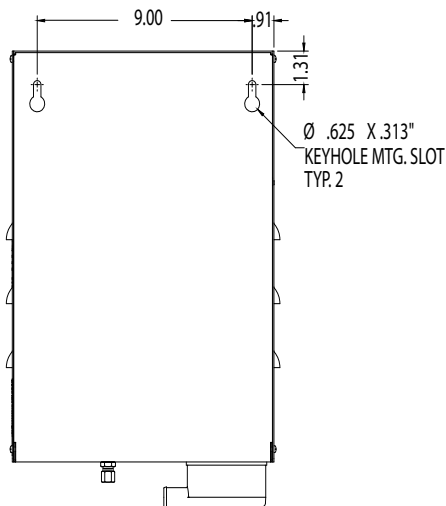

Figure 3 (Back View)
3. Two 5/16" lag bolts are supplied with the CFS20/22 unit. Install the lag bolts according to the dimensions in Figure 3.